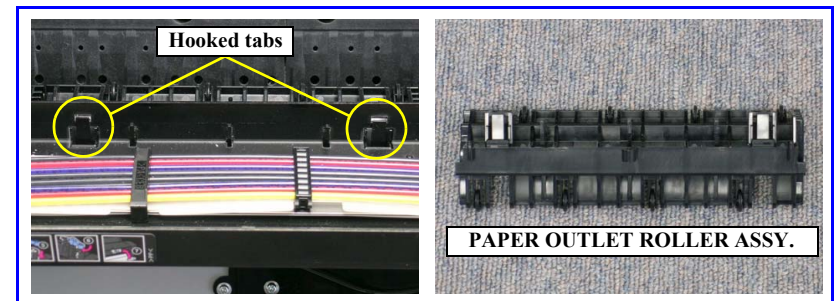

Figure 4-75. Removing the PAPER OUTLET ROLLER ASSY.
5. Release the two hooked tabs on each of the seven PAPER OUTLET ROLLER Assies, and remove them. *See Figure 4-75.*